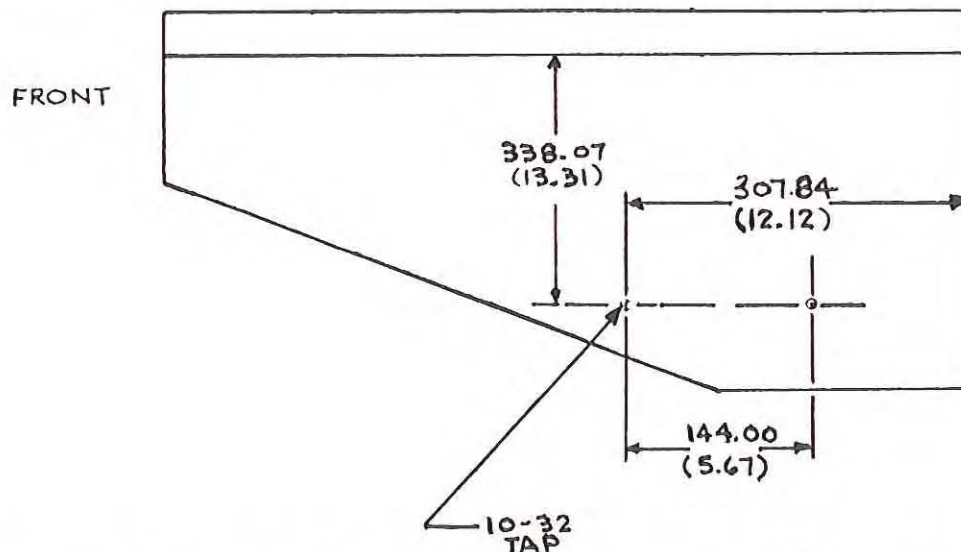

Figure 8-3. Hole Locations for Y-Axis Disconnect Cable Bracket
2. Remove motor mounting bracket (2).
3. Remove saddle hold down (3) and install new item (3) provided with tapped holes. Torque mounting screw to 33 ft. lbs.
4. Remove knee-column hold down clamp (4) and install new item (4) provided with tapped holes.
5. Install new X-axis drive motor bracket (2).
6. Mount the brake block (5), binding strip (6) and spacer (7) to knee and saddle with all mounting screws loose.
7. Install saddle locking shaft (8) through X-axis motor mounting bracket (2).
8. Install the front binding strip mounting bracket (9) to the binding strip (6) and clamp to knee.
9. Drive Y-axis full travel and snug up all capscrews with change of position of item (9) if necessary. Ensure free travel without binding or friction. Tighten all capscrews, drill and tap front of knee per Figure 8-3. Install capscrews.
13. Install cover (1).
14. Install saddle lock handle (10) and check the proper action of the Y-axis clamp.
The rotary table electrical adapter option requires that a bracket be mounted on the left side of the knee. Figure 8-3 shows where and how to drill the holes for the bracket. The dimensions are approximate.